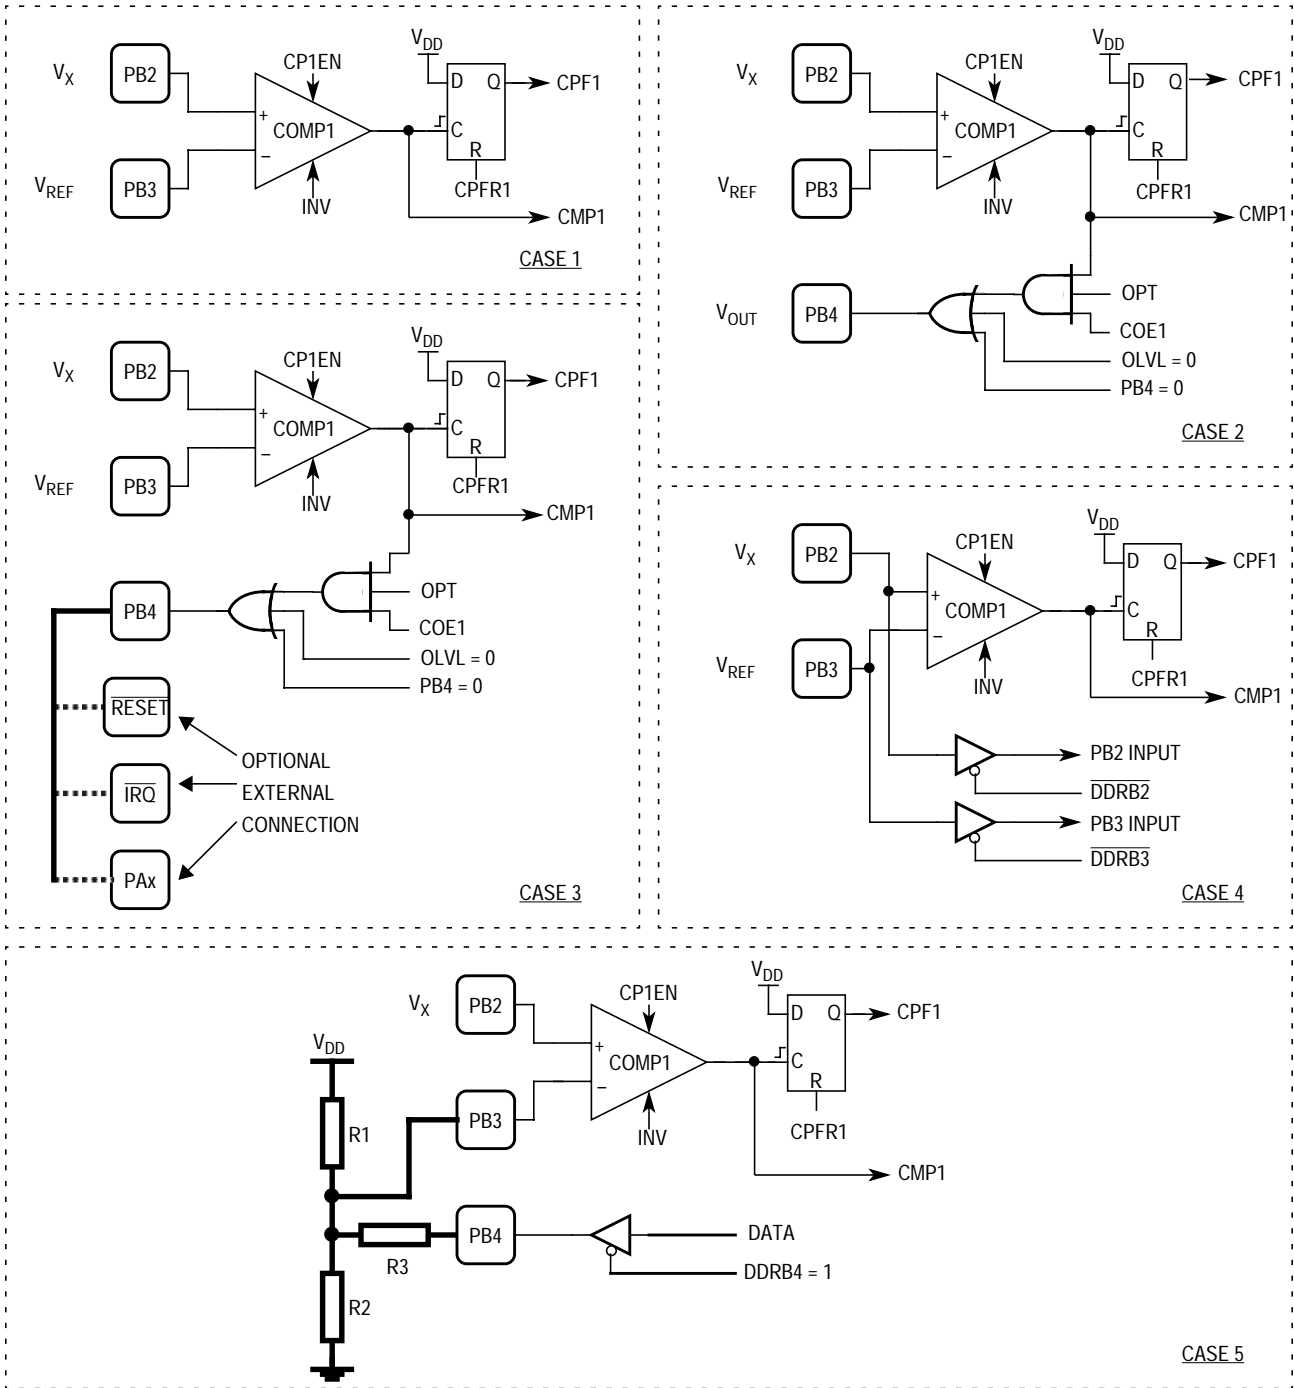
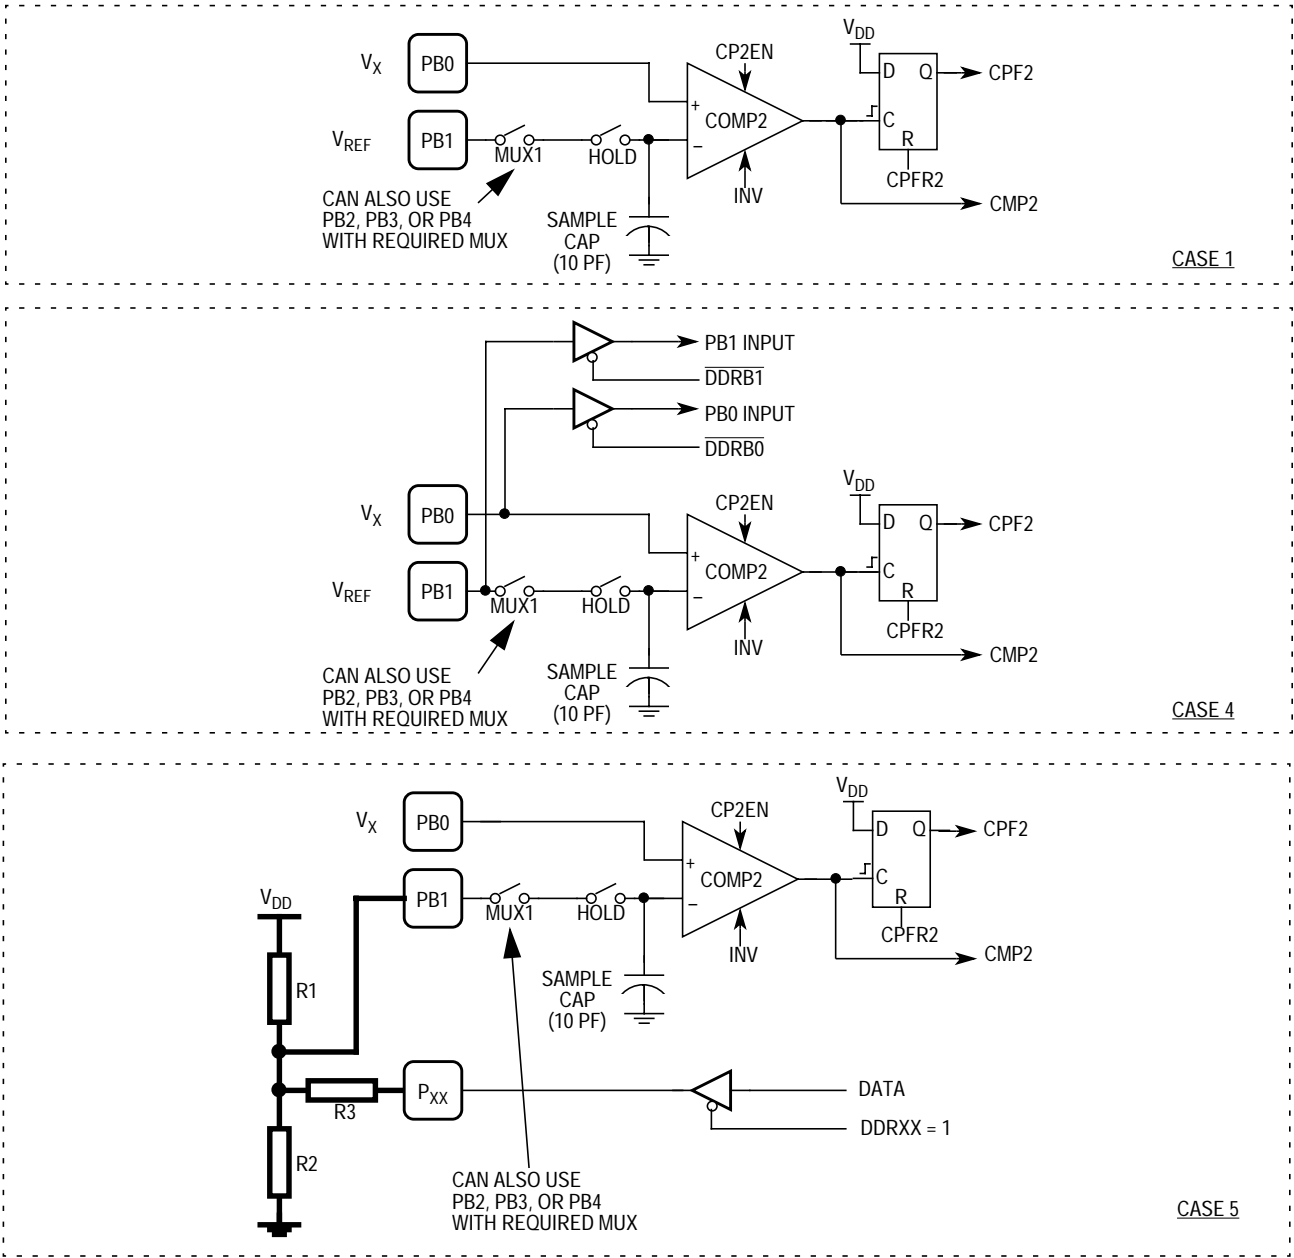
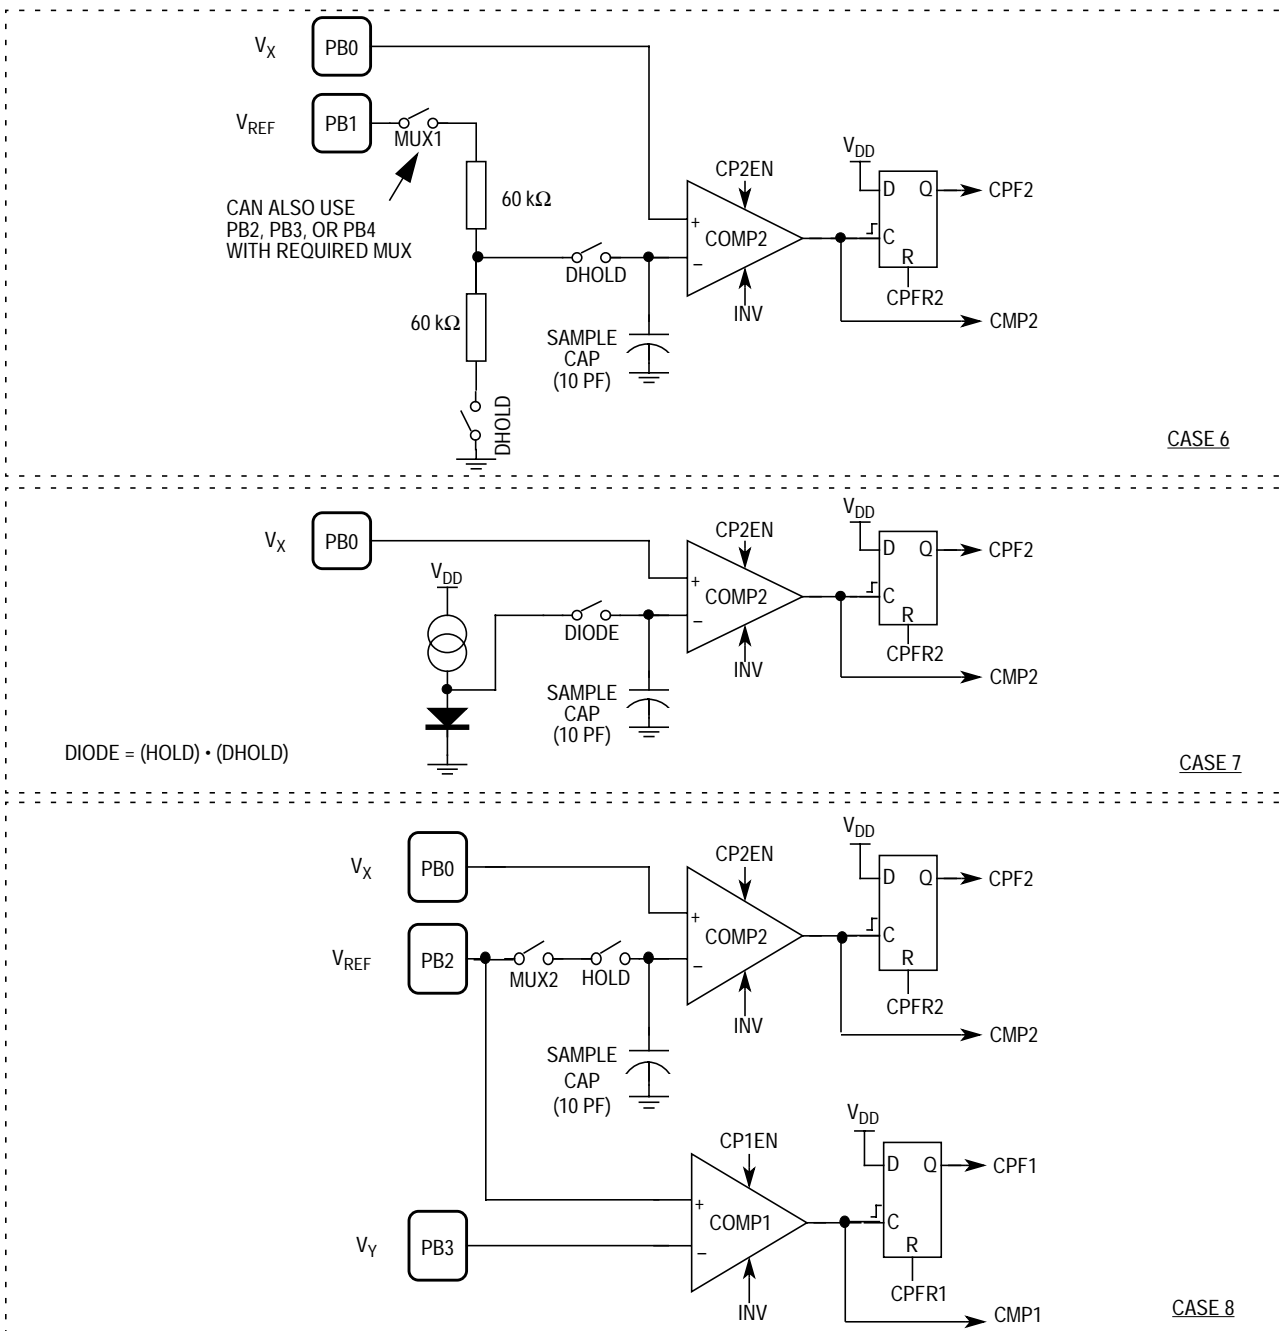

Figure 3. Comparator 1 Configurations
Figure 4. Comparator 2 Configurations
Figure 5. Additional Comparator 2 Configurations
The connections to PB2, PB3, and PB4 mean that the user must decide the dominant use of these pins. While the inputs to comparator 1 will not affect the levels applied to PB2 and PB3 (even if above the common-mode range of comparator 2), the output of comparator 1 can be OR'ed with any internal source driving PB4. Comparator 1 can be used in a variety of configurations which are described in the following paragraphs and shown in Figure 3.
**Case 5** uses comparator 1 as a monitor, but it also uses the digital output on PB4 to alter the trip point for the comparator. As shown in **Figure 3**, the PB4 output buffer could shunt the external reference divider causing the comparator to set when the parallel combination of R1 and R3 is connected to  $V_{DD}$  and then reset when the parallel combination of R2 and R3 is connected to  $V_{SS}$ . Careful review of the port B description also will show that the shunting of the external reference divider can be done by the OR combination of the PB4, TCMP, or CMP1 functions so that the control can be based on software control, timer control, or direct feedback from comparator 1. In this case, it is important that the PB2 and PB3 pins are configured as inputs with their pulldowns disabled.
Comparator 2 has limited connection capabilities versus comparator 1. The primary purpose of comparator 2 is to construct a multiple channel integrating A/D convertor using the internal channel MUX, internal references, input divider, and sample and hold. Comparator 2 can be used as a simple comparator as shown in Figure 4. These uses are similar to cases 1, 4, and 5 for comparator 1 shown in Figure 3. However, due to the internal resources, comparator 2 has several unique cases of its own. These additional cases are shown in Figure 5 and are described in the following paragraphs.